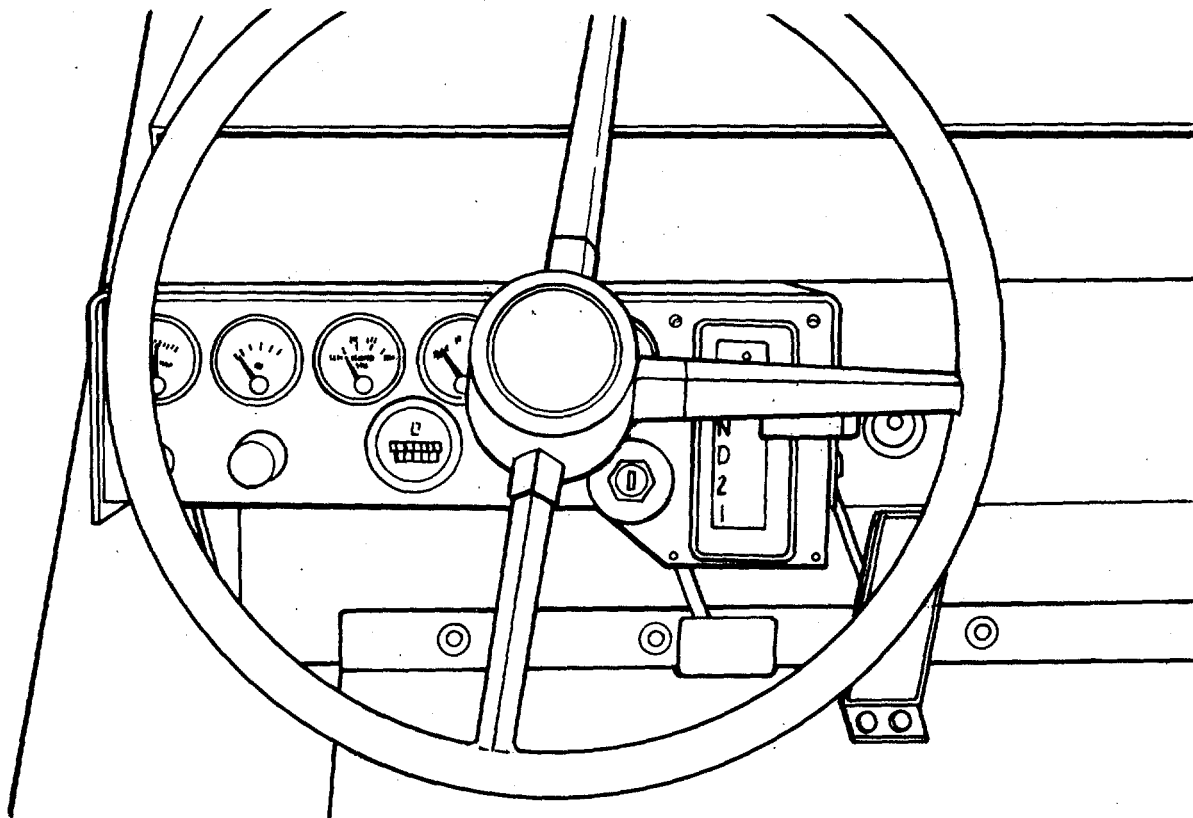

Figure 3-1. Operator's Controls and Instruments
**3-7. INSTRUMENTS.** The panel (see figure 3-1) on the dash includes all indicating instruments.
**3-8. BRAKE PEDAL.** The brake pedal (figure 3-1) is located to the right of the steering column. When depressed, the pedal actuates the hydraulic brakes on the rear wheels.
**3-9. ACCELERATOR PEDAL.** The accelerator pedal (figure 3-1) is located to the right of the brake pedal. The accelerator pedal is connected to the carburetor through mechanical linkage and controls engine speed.
**3-10. GEAR SHIFT LEVER.** The gear shift lever (figure 3-1) is mounted on the instrument panel. It permits the operator to select one of five detented positions for proper tractor operation: R (reverse), N (neutral), D (drive), 2 (second), and 1 (low). The tractor may be started only when the gear shift lever is in the N (neutral) position.